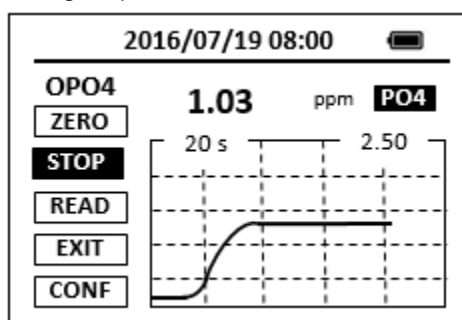

Figure 7. Concentration as a Function of Time
Most of colorimetric methods have only one timing step. As an example, in the DPD free chlorine method, it takes one minute for the DPD powder reagent to completely react with chlorine in the water sample. The DPD free chlorine method has a single one-minute timing step. Figure 7 shows the main page of a method with a single timing step.
1. Place the sample vial filled with the water sample in the SP-800 sample vial compartment and press the **ZERO** button. The SP-800 will display the page shown in Figure 7.